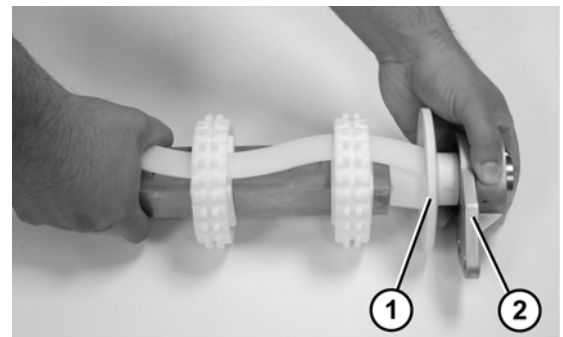

Figure 69
- Attach the flanged pucks (Figure 69, item 1) and the 3 hole flange with bearing (Figure 69, item 2) to the drive spindle.